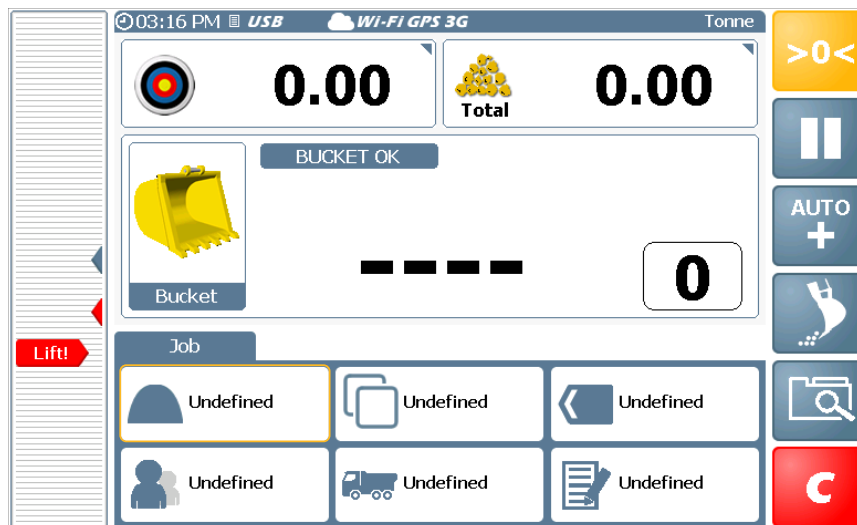

Figure 7-4: Load Weighing Display Main Screen
1. Open the load weighing display main screen (Figure 7-4).